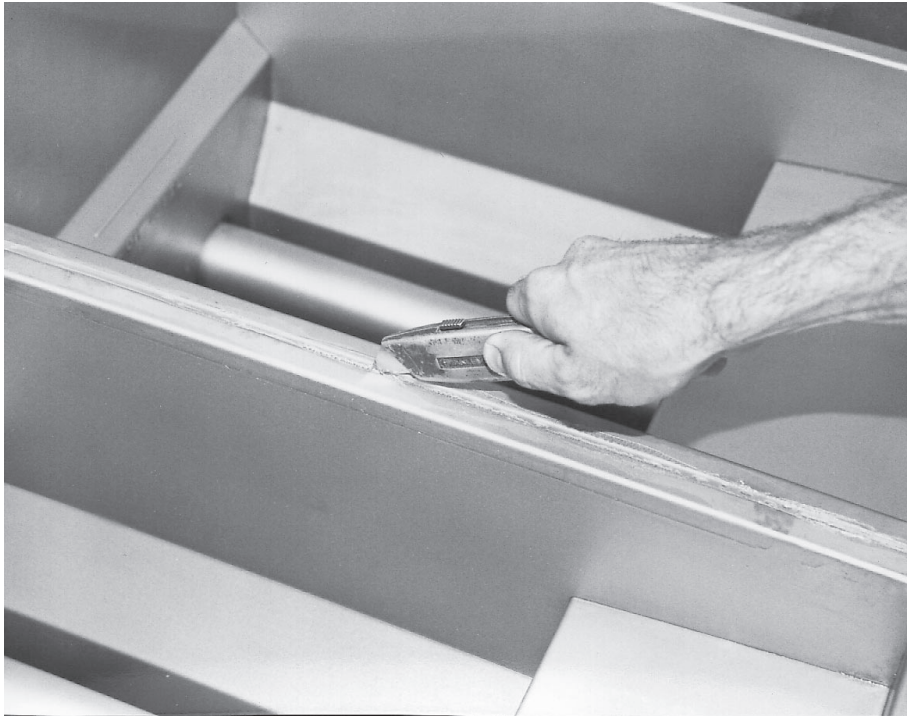

Fig. 69
3. If a fryer battery is involved, with a utility knife split the silicon sealant from around the grease strip between the tanks and remove the stainless grease strip, then split the tank sections apart with a utility knife (Fig. 69)